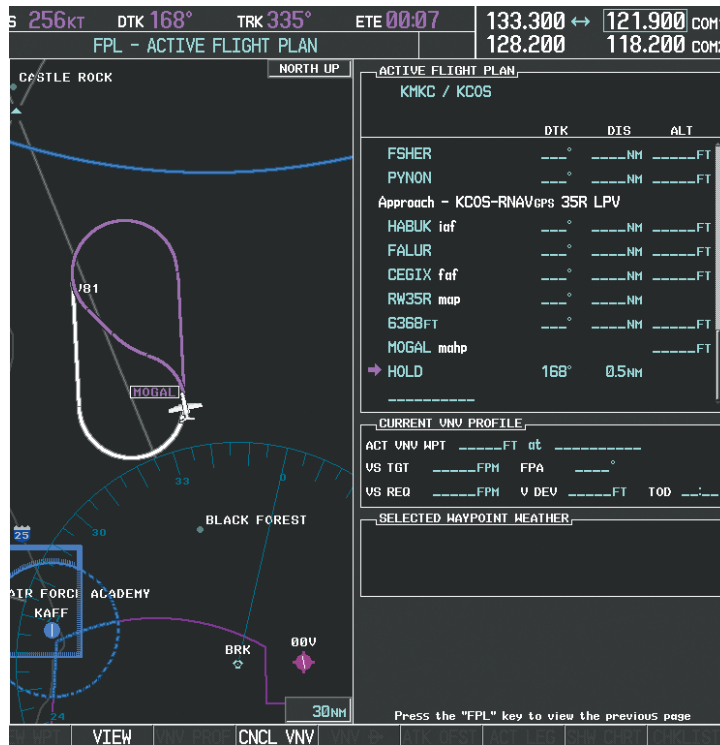

Figure 5-152 Establishing the Holding Pattern
26) The aircraft continues climbing to “AT or ABOVE” 10,000 feet at MOGAL. A holding pattern is established at the MAHP (MOGAL) as shown in Figure 5-152.